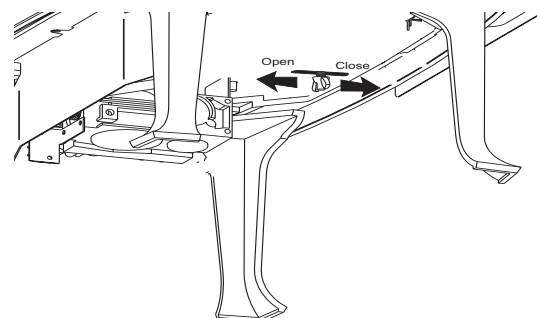

Figure 26.
16. **Adjust the Air Shutter:** Locate and loosen the wingnut that secures the Air Shutter. See fig. 26. It is under the stove, in the center toward the rear. Push the shutter stem back to restrict air and forward to increase air to the burner. You will need to experiment to find the best setting for your particular installation. The shutter is set at the halfway position at the factory.
1. Locate and loosen the adjustment stem wingnut protruding from the bottom of the firebox, directly behind the gas valve. See fig. 26.